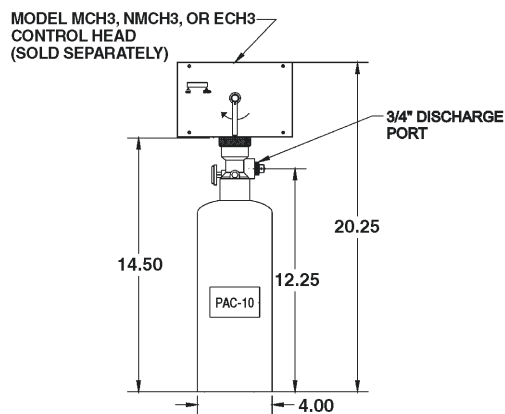

Figure 2.8. Model PAC-10 Pneumatic Actuating Cylinder.
The Model PAC-10 is a pneumatic actuating cylinder that can actuate a maximum of ten (10) agent cylinders simultaneously. The Model PAC-10 includes a DOT 4BA350 cylinder pressurized with dry nitrogen to 350 PSIG @ 70° F., a brass valve with pressure gauge, and a wall mounting bracket. A Model MCH3, NMCH3, or ECH3 control head must be purchased separately and connected to the PAC-10 to open the valve. See **Figure 2-8**.